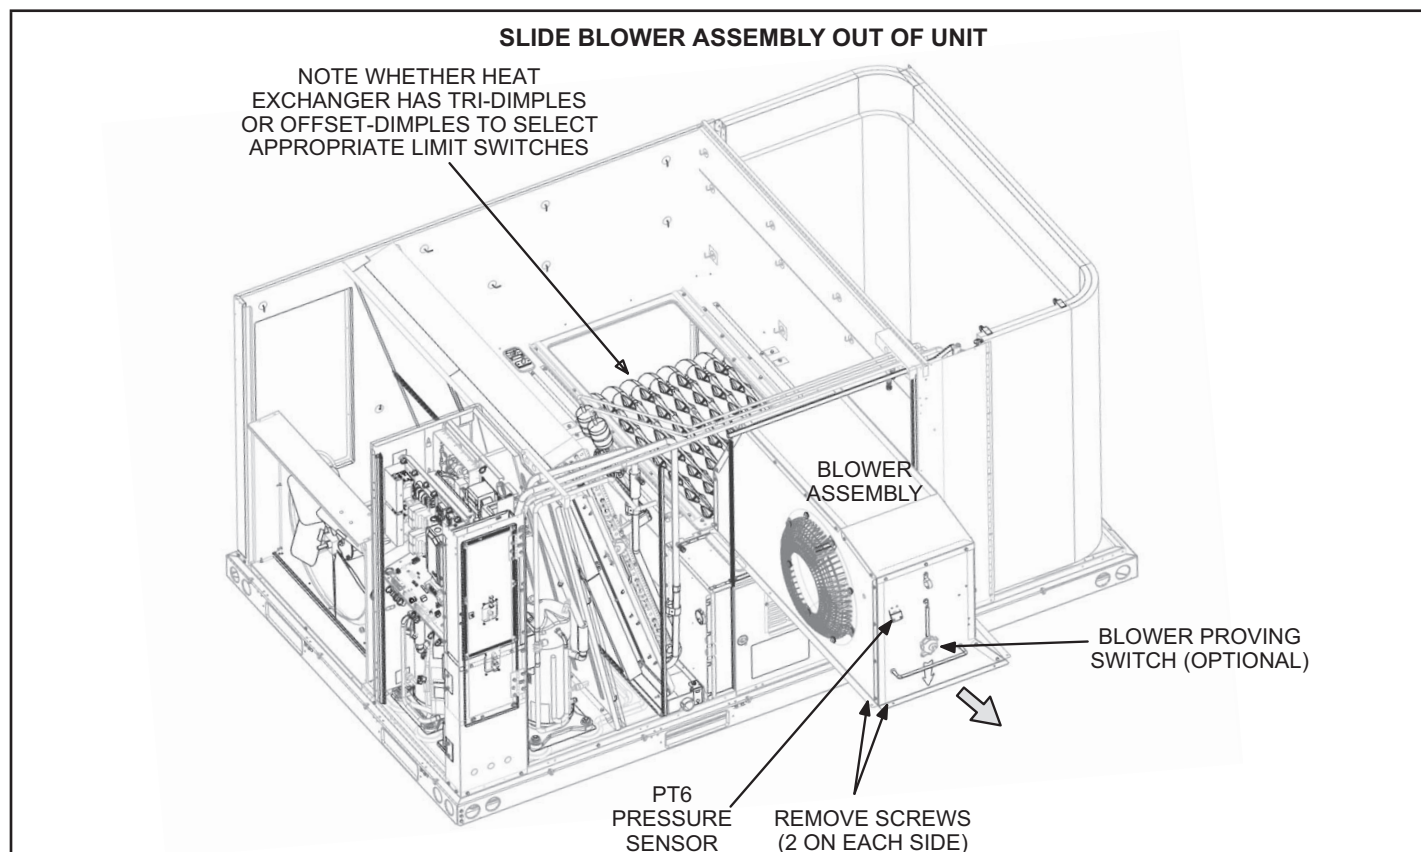

FIGURE 5
- 6 - Remove four screws securing blower assembly to unit. See figure 5.
Note - Take note of the heat exchanger dimples before replacing the blower. See figure 5. The appropriate replacement limit switches are determined by tri- or offset- dimples. See "Install New Limit Switch" section.
- 10 - Install replacement blower assembly flanges into rails on the blower deck in the same manner it was removed. Secure into place using four screws shown in figure 5.
- 4 - Select the replacement switch as follows (see figure 5 to view the heat exchanger dimples):